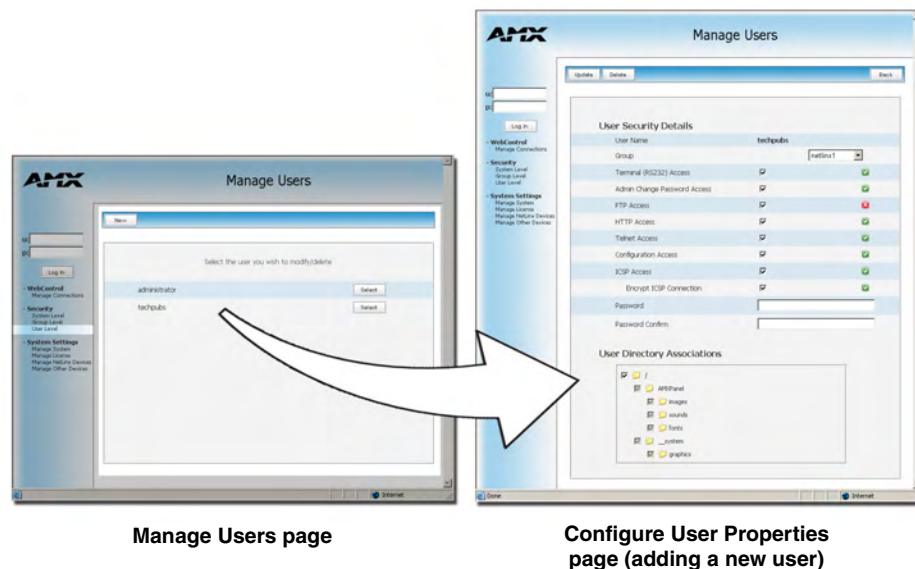

FIG. 53 User Level Security - Manage Users Security page
To access this page, click on the **User Level** link (from within the Security section of the Navigation frame). This page (FIG. 53) allows an authorized user to add a user account (FIG. 30) and then assign that user's current access rights.
2. Click the **New** button to be transferred to the Configure User Properties page (FIG. 53).
- Press the **Select** button next to the selected Username to open the Configure User Properties page (FIG. 53) for the particular user.